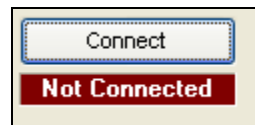

Figure 10.0.4
2. Click on the **Connect** button to communicate with **LoggerNet** (Figure 10.0.4).